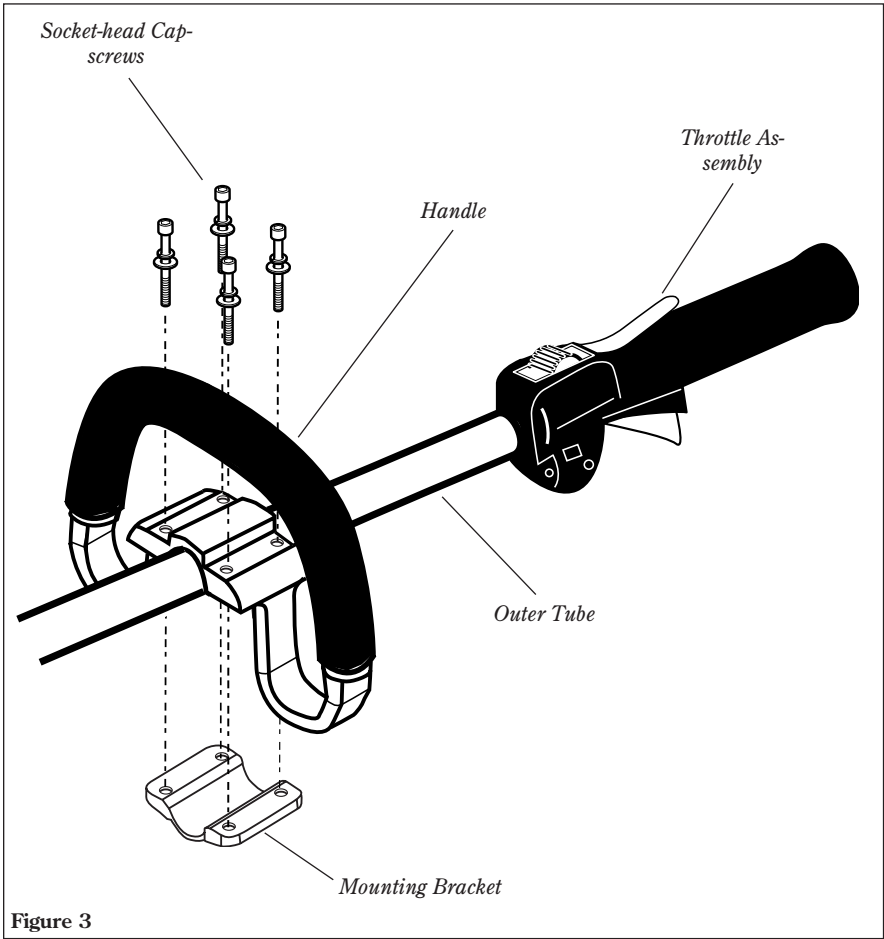

Figure 3
1. Position the handle on the outer tube as shown. See Figure 3.